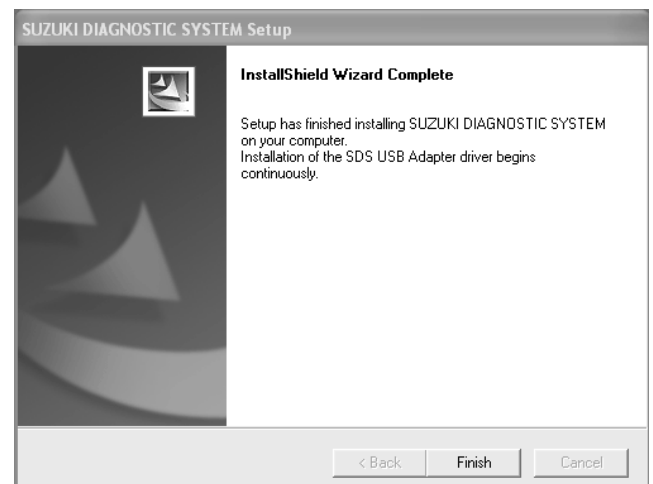

Fig.10
7. The installation of SDS_Ver 6.00 software is complete. (Fig.10)